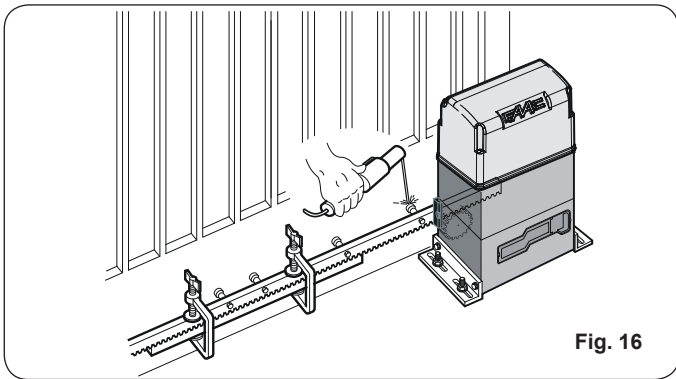

Fig. 16
- Place another rack element next to the previous one, use a third piece of rack (as shown in Fig. 16) to synchronize the teeth of the first two elements.